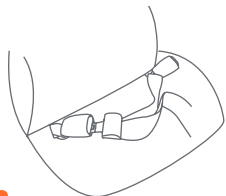

Fig. 40-2
5. Buckle the seat belt being careful that the seat belt is not twisted and is securely latched into the appropriate buckle, and not the adjacent buckle (Fig. 40-2).